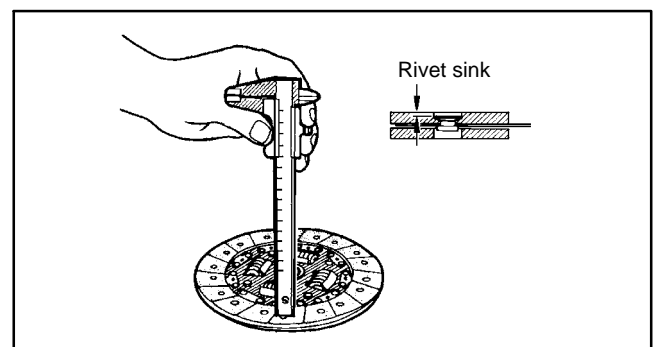

Figure 23
8. Measure rivet sink and replace clutch disk if out of specification (Fig. 23).